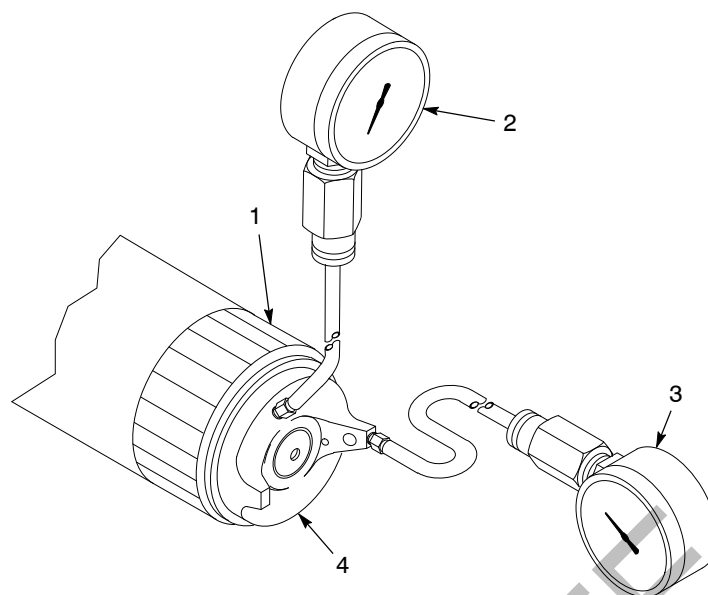

Figure 4-1 Checking Air Cap Performance
The air pressure settings in Table 4-1 do not guarantee optimum KVLP performance. After making an air pressure setting, perform an KVLP compliance test. See Figure 4-1 and refer to *Checking Air Cap Performance* on page 4-7 for kit installation.
3. See Figure 4-1. Remove the production air cap and retaining ring and replace them with the air cap (4) and retaining ring (1) included with the KVLP compliance kit.